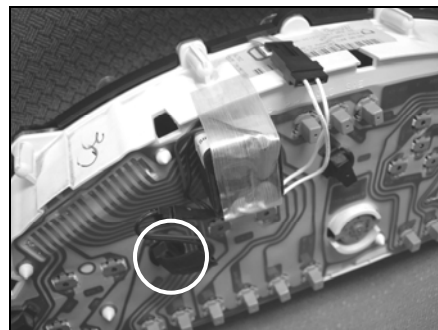

Figure 10
- A. Remove the liner from the 4" strip of tape provided and strap the Simco EL Inverter to the flexible circuit. (See Figure 10)
- B. Connect the connector from the white leads to the connector on the Simco EL Lamp. (See Figure 10)
- C. Remove the black lamp circled in Figure 10. This lamp is the second from the left if you are looking at the back of the cluster.
- D. Plug the new lamp connector into the empty lamp socket so that the red wire is to the right, push downward and twist a quarter turn clockwise (CW) until the lamp connector is firmly in place.(See Figure 10)